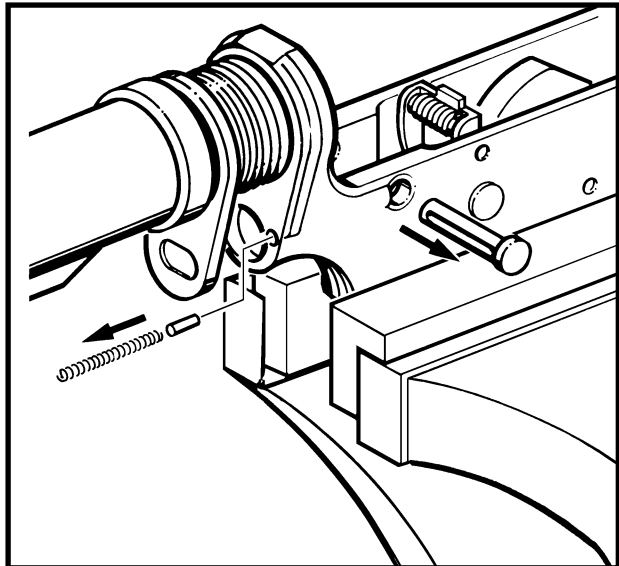

Figure 3-2-54 Removing the Takedown Pin, Detent and Spring
- d. Remove the detent spring, detent and takedown pin. See Figure 3-2-54;